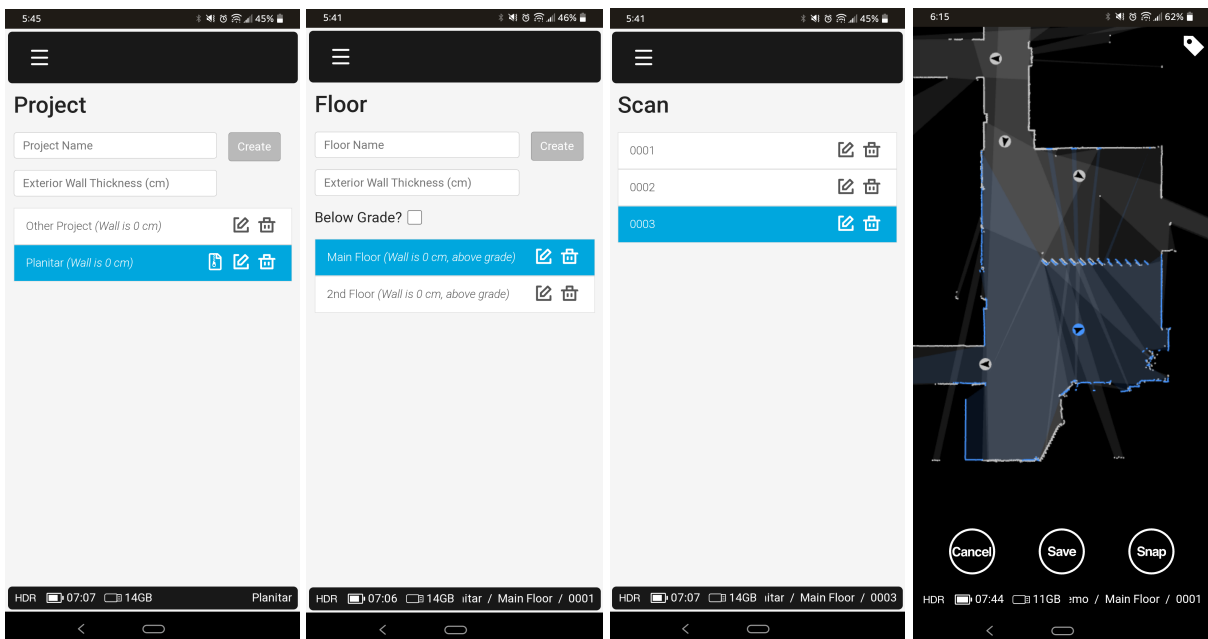

Figure 15 - (left to right) Project menu, Floor menu, Scan menu, Align mode
1. Tap in the blank field on the Project menu and enter a name (figure 15).
1. Tap in the blank field on the floor menu and enter a name (figure 15).
- Tap **Snap** once the data is almost aligned to fine-tune the alignment (see figure 15).
- Additionally, the Scan menu can be used to select, edit, or delete a previous scan (see figure 15).